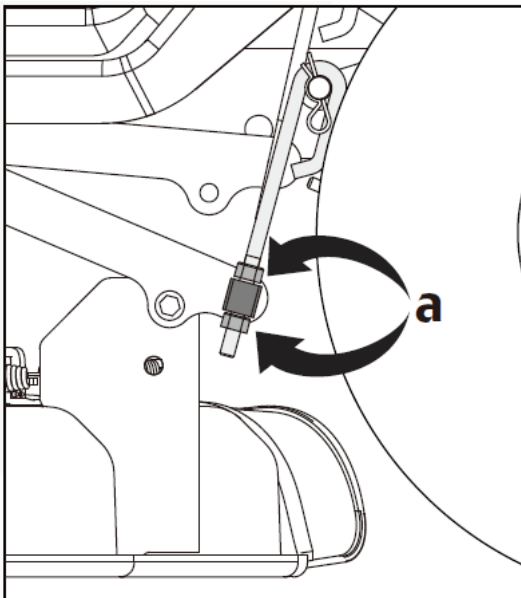

Fig.23
3. Turn the adjustment nuts up to raise or down to lower the left side of the cutting deck. (a, Fig. 23)